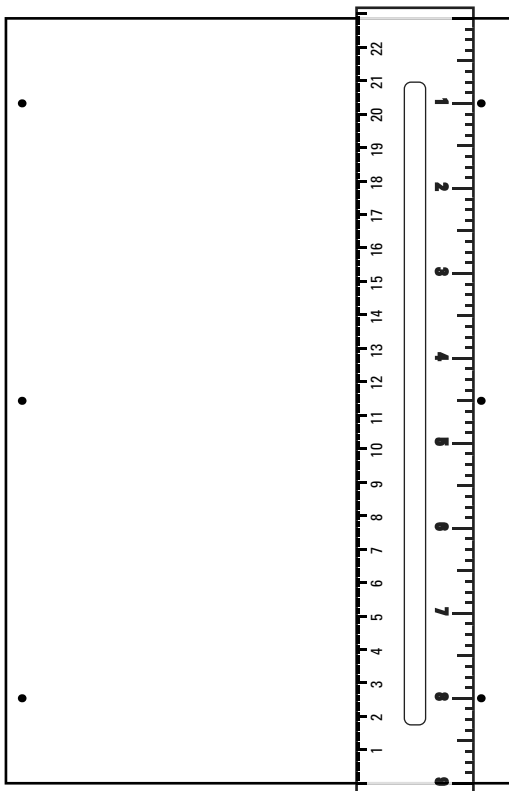

Figure 4-4:
1. Measure and draw small dots to guide the horizontal lines (see Figure 4-4).